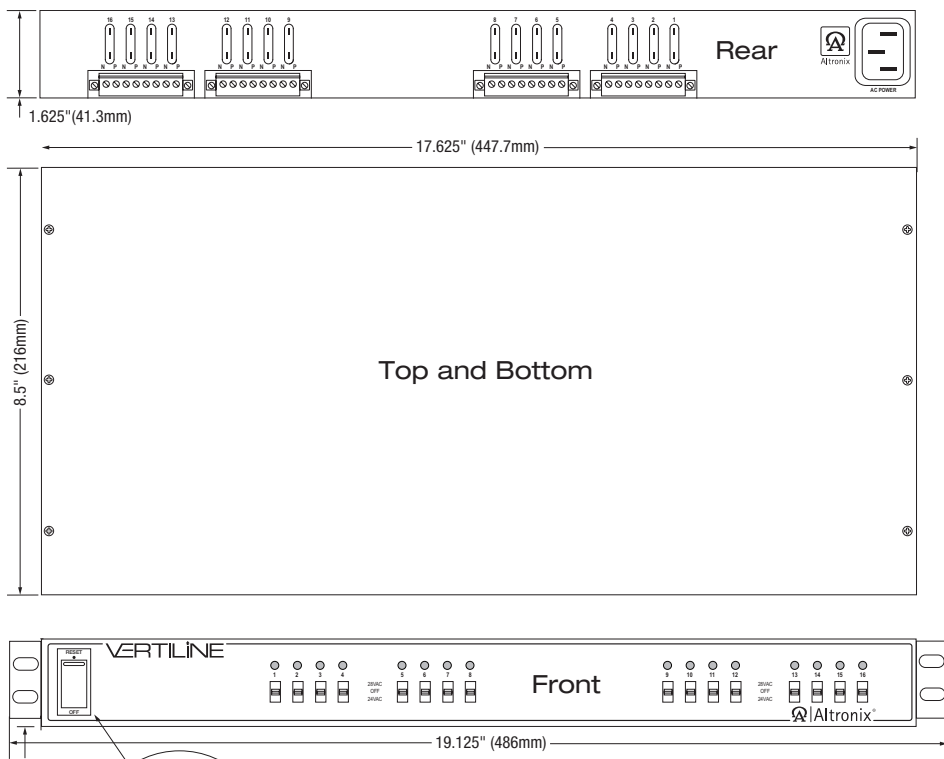

Fig. 3
5. Set illuminated master power disconnect circuit breaker to the (ON) position (*Fig. 3, pg. 6*).
7. Measure output voltage before connecting cameras. This helps avoiding potential damage. All terminals with common suffix (P) "1P, 2P ..." are the same polarity.
8. Set illuminated master power disconnect circuit breaker to the (OFF) position (*Fig. 3, pg. 6*).
10. Upon completion of wiring, set illuminated master power disconnect circuit breaker to the ON (RESET) position (*Fig. 3, pg. 6*).
(Fig. 3, pg. 6).